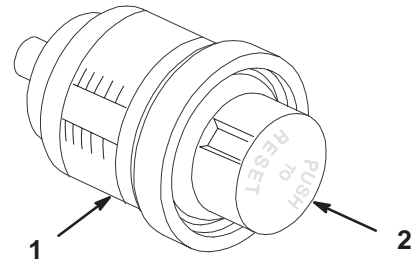

Figure 24
2. Reset the gauge by depressing the button in the bottom of the canister until the plunger returns to the lowest point (Fig. 24).